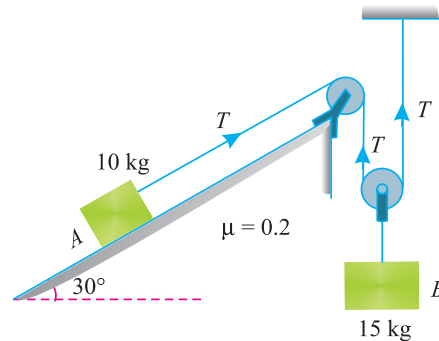

Fig. 25.12.
**Example 25.9.** Determine the resulting motion of the body A assuming the pulleys to be smooth and weightless as shown in Fig. 25.12.